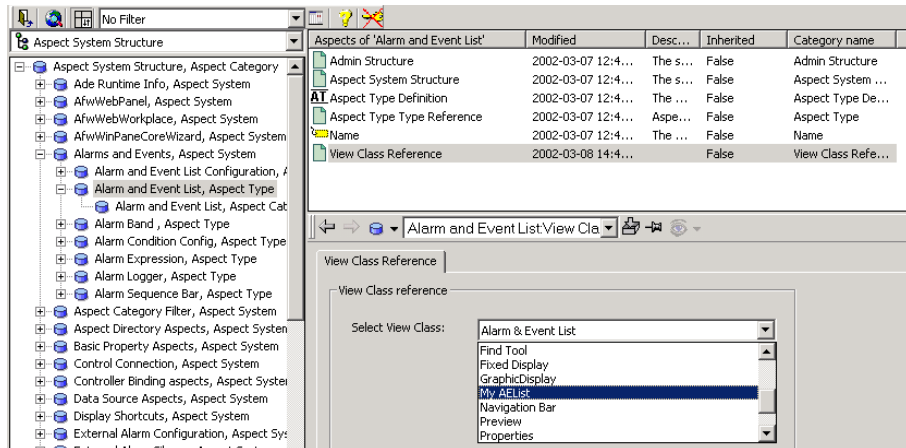

Figure 89. View Class Reference
8. In the View Class Reference dialog box, select your object (**My AE List**) in the **Select View Class** drop-down menu, see Figure 89.